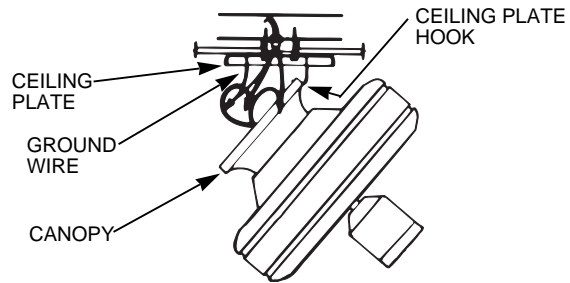

FIGURE 5A
**B.** Next, poke through the neoprene material behind the holes with a sharp object, then secure the canopy to the top of the fan using (3) #10-32 screws with lockwashers packaged with the adaptor kit. Make certain the screws are tight. Failure to do so could result in the fan falling.
**C.** Being careful not to scratch the canopy finish, hang the fan from the hook in the ceiling plate using one of the (2) slots in the canopy. See Figure 5A.
**B.** Being careful not to scratch the canopy finish, hang the fan from the hook in the ceiling plate using one of the (2) slots in the canopy. See Figure 5A.